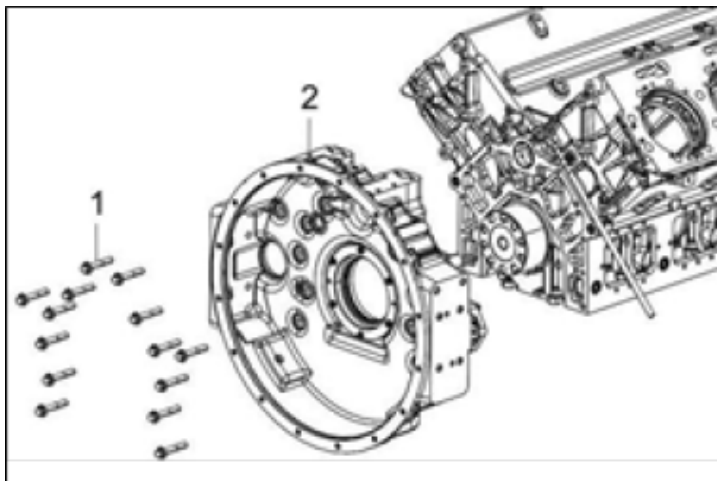

Figure 128.
5. Install the flywheel housing (Figure 128, Item 2) to the rear end of engine block by using the guide rods.
6. Apply Loctite 242 sealant coated at the threads of the flywheel housing bolts (Figure 128, Item 1).